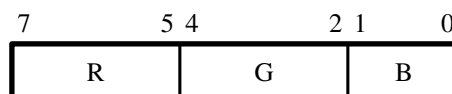

Figure 7. 8-bit RGB Color Space.
- 8-Bit RGB — This format uses 3 bits for red, and 3 bits for green and 2 bits for blue as shown in Figure 7. This mode is defined as 8 bits per color and one color plane.